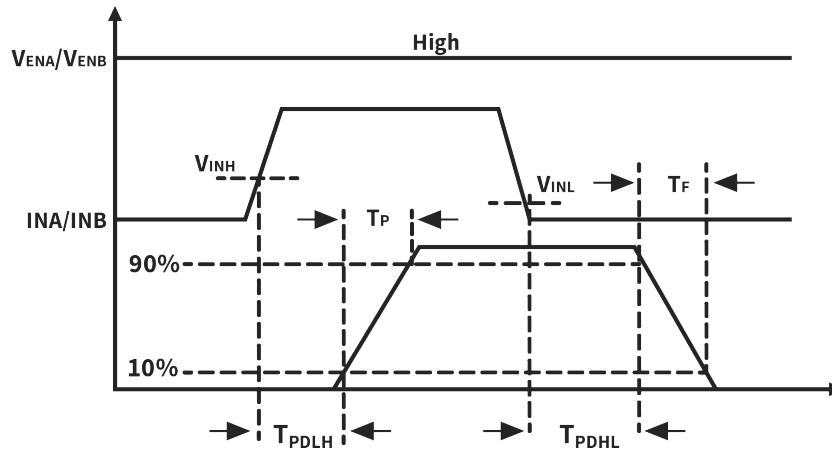
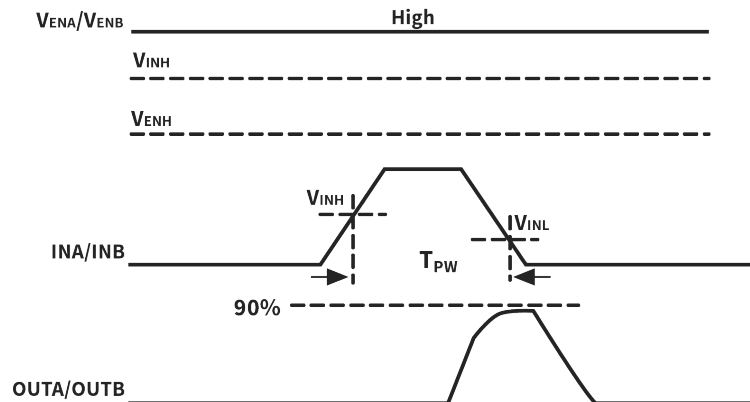
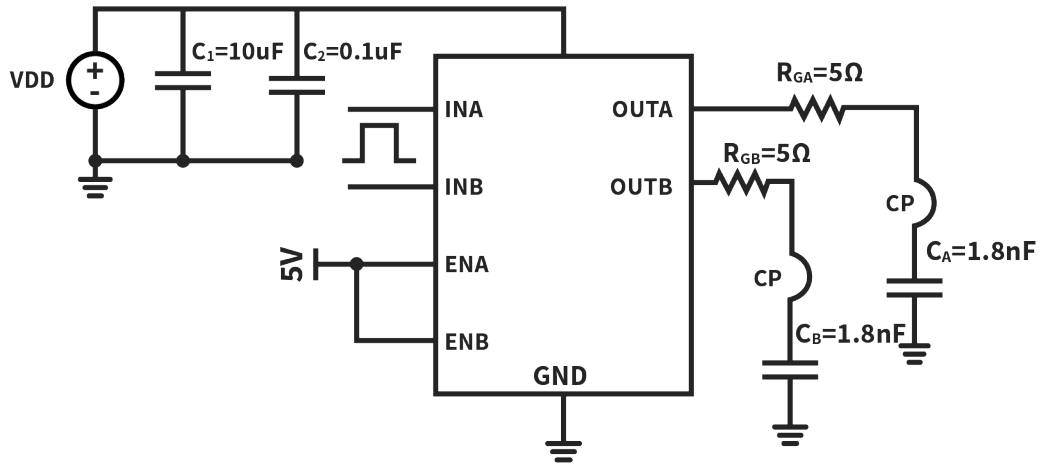

Figure 5.1 Propagation Delay, rise and fall time
Figure 5.2 Minimum input pulse width that changes the output state
Figure 5.3 Test circuit diagram
- 1) See the timing diagrams in Figure 5.1
- 2) See the timing diagrams in Figure 5.2
Figure 5.1 shows the definition of propagation delay, rise and fall time, while the minimum input pulse width that changes the output state is depicted in Figure 5.2. Associated test circuit diagram for specification measurements is shown in Figure 5.3.